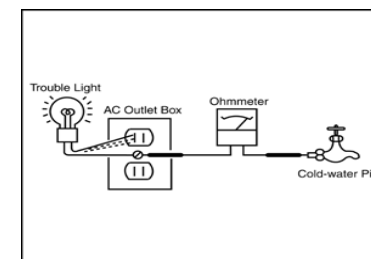

Figure 3. Checking for earth ground.
3) If a cold-water pipe is not accessible, connect a 60- to 100-watt trouble- light (not a neon lamp) between the hot side of the receptacle and the retaining screw. Try both slots, if necessary, to locate the hot side on the line; the lamp should light at normal brilliance if the screw is at ground potential (see Figure 3).